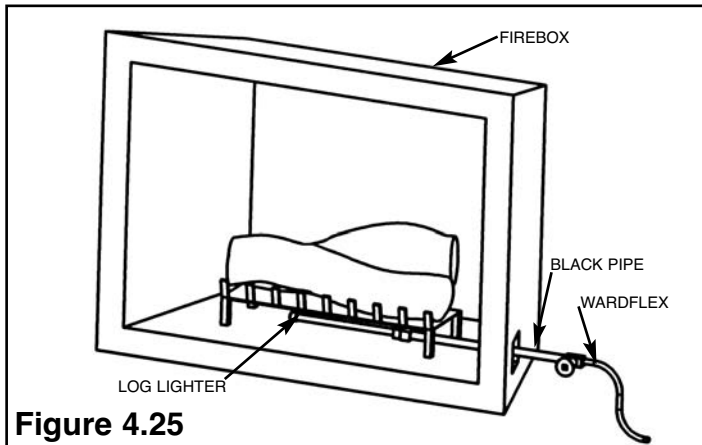

Figure 4.25
- WARDFLEX may be routed through the fireplace wall but must terminate at the interior surface with a termination fitting or be connected to hard pipe outside the firebox. See Figure 4.25.